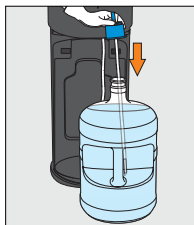

Figure 41
19. Remove replacement bottle adaptor from packaging and install onto new, full bottle (Figure 41)